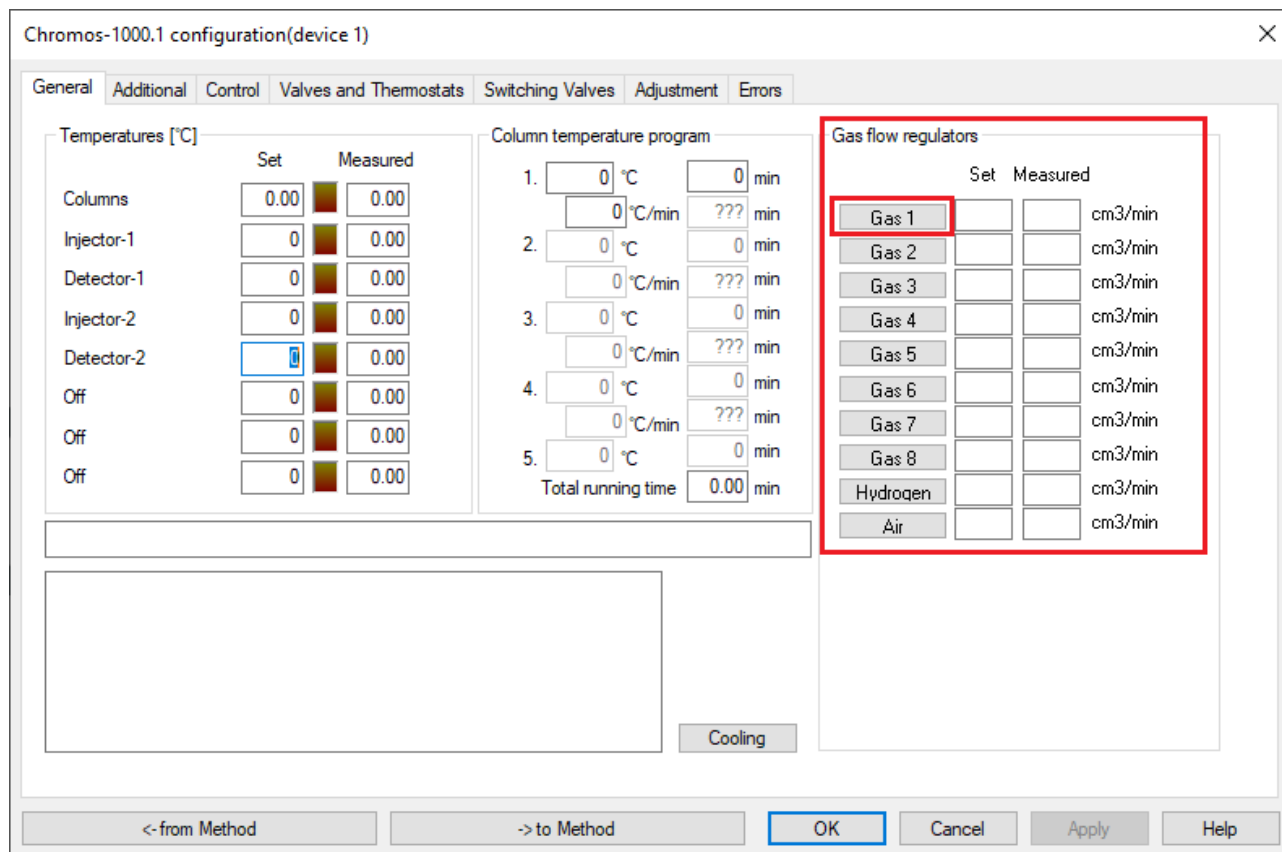

Fig. 34: Configuration
1. On the control panel next to the instrument name, click  **Operating Mode**. The *Configuration* window opens (Fig. 34).